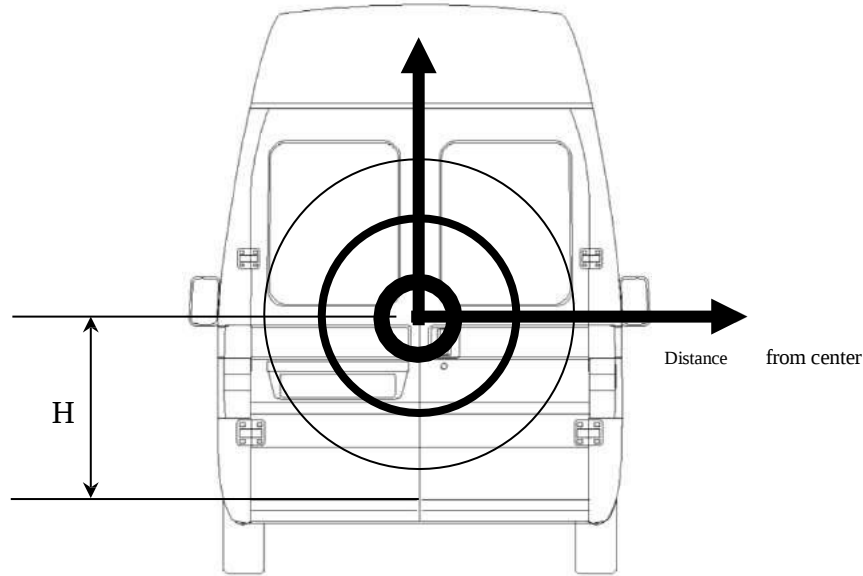

Fig.4
- The position of the armor relative to the lower edge of the door "H" must be such that effectiveness is maximized, therefore as close as possible to the center of the door (see fig. 4); ideally, the distance from the lower edge of the door to the lock (H) equals the distance from the lock to the upper edge.